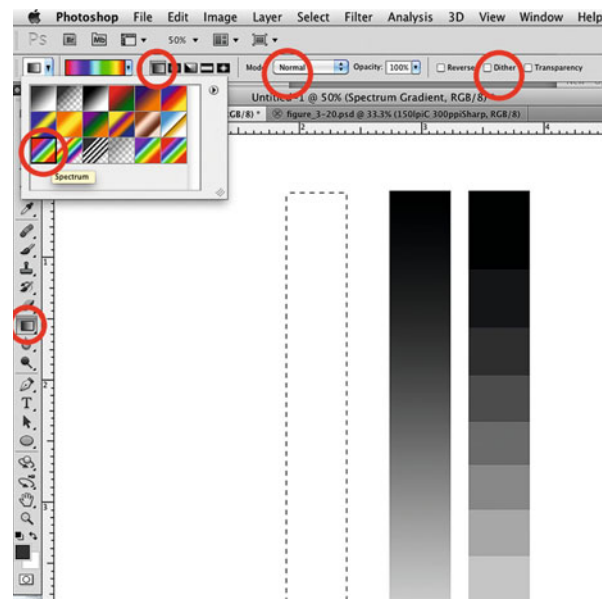

FIGURE 3.22 Selections and options for creating a spectrum gradient in Adobe Photoshop.
- Select the **Gradient Tool** from the toolbar, which shares a spot with the Paint Bucket tool, as shown in Figure 3.22.
- Select the **Spectrum** gradient, the **Liner** gradient, the **Normal Mode** and make sure **Dither** is NOT checked, as also shown in Figure 3.22.